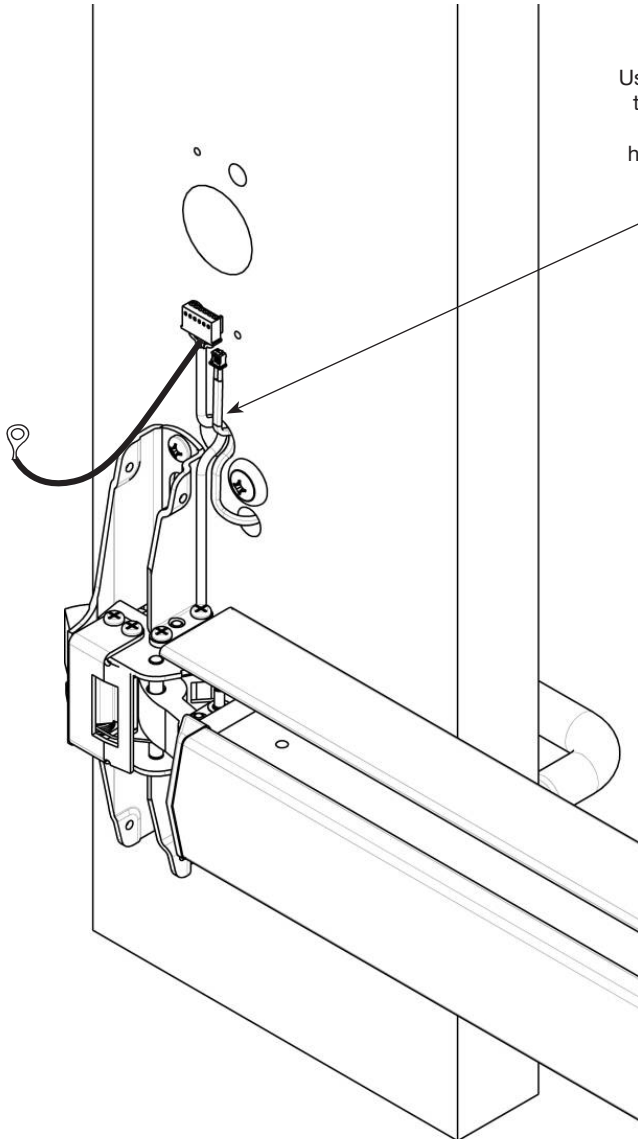

Fig. 5a
- Lay wire harnesses (trim harness and device harness) across $\frac{3}{4}$ " hole (Fig. 5a).